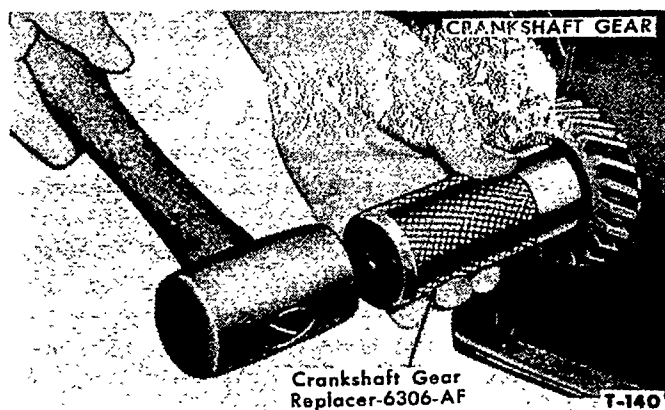

Figure 64—Installing Crankshaft Gear
- Replace the gear with Installer 6306-AF as shown in Figure 64.